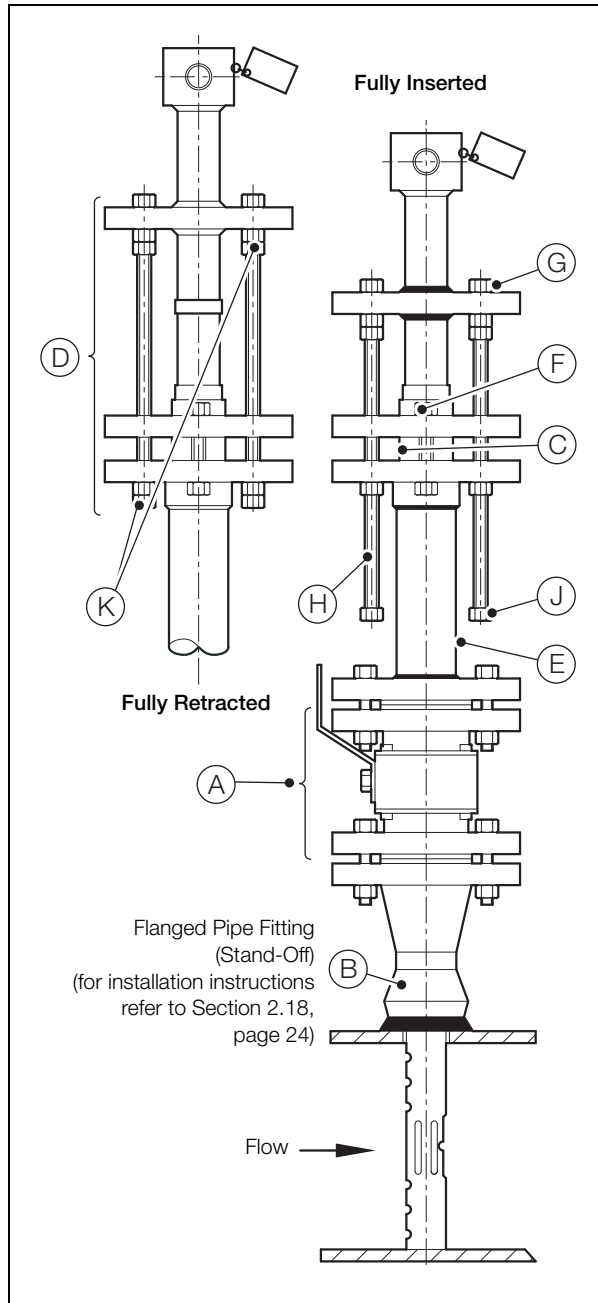

Fig. 2.14 Installation of Flanged Models
2. Referring to Fig. 2.14:
- a. Fit isolation valve (A) to flanged pipe fitting (stand-off) (B).
- b. Attach hot-tap drilling equipment to isolation valve (A) in accordance with the manufacturer's instructions.